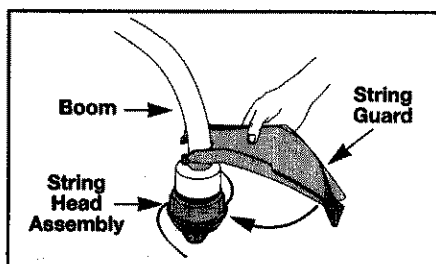

Fig. 3
1. Place the string guard onto the boom above the clamp assembly, so that the guard is in front of the string head (Fig. 3).